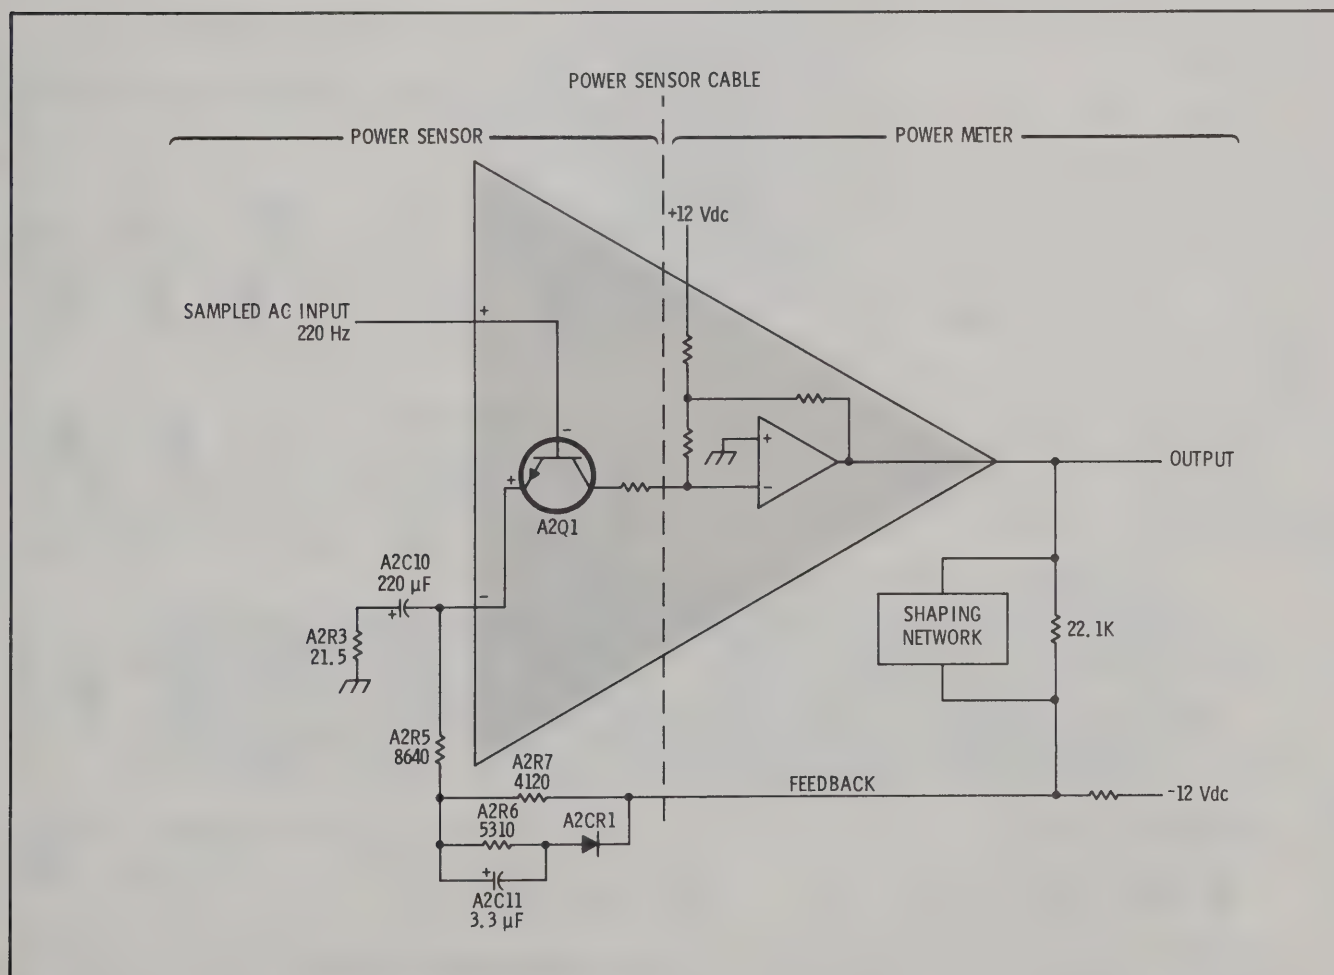

Figure 6. Operational Amplifier
60. The output of A2U1 is amplified about 1700 times by an operational amplifier made up of A2Q1 and the first amplifier stage in the power meter. Figure 6 is a simplified diagram of the complete operational amplifier.
61. Resistors A2R5, A2R6, and A2R7 together with capacitor A2C11 and diode A2CR1, make up a shaping network. This network brings about a linear change in the amplitude of the square wave output as RF input power changes. A shaping network in the power meter (Figure 6) produces the same effect when a power sensor of the thermocouple type is used. (HP Model 8481A, 8482A,